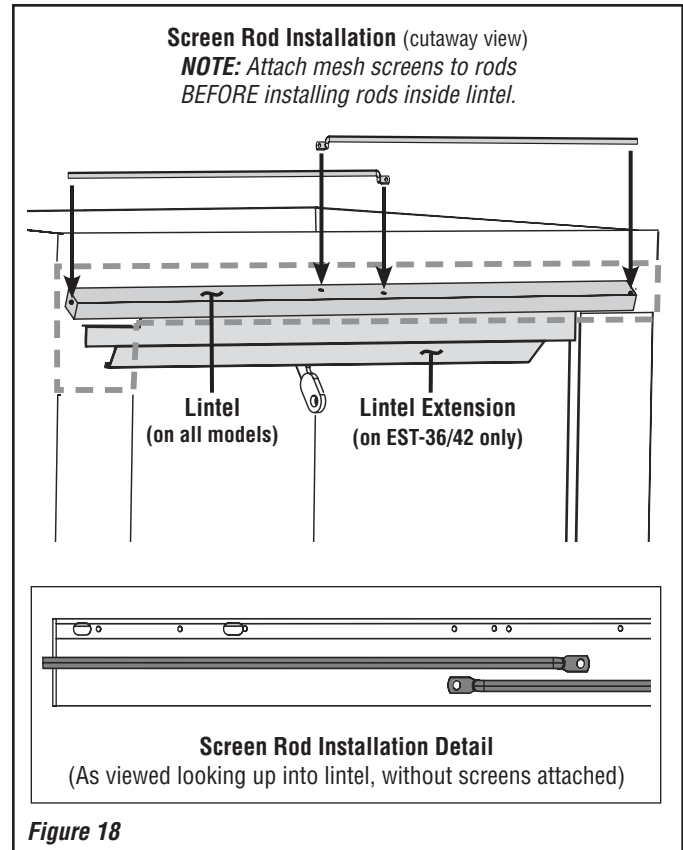

Figure 18
- 12.2. Insert the straight end of the rod into the hole inside one end of the lintel, as shown in **Figure 18, below**.
- 12.3. Using a 1/4" nut driver and one of the provided screws, attach the other end of the rod to the top inside of the lintel, as shown in **Figure 18, below**.